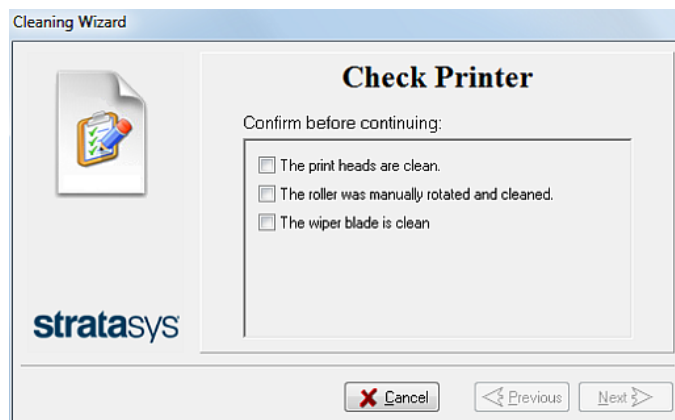

Figure 4-39 Wizard screen during cleaning tasks
13. When you have finished cleaning, select the confirmation check boxes in the wizard screen (see Figure 4-39) and click **Next**.